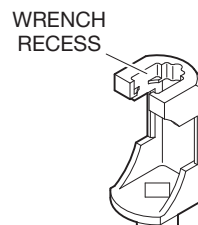

FIGURE 8
Step 2. Tighten the sprinkler into the sprinkler fitting using only the W-Type 10 Recessed Sprinkler Wrench, see Figure 8. With reference to Figure 1, 2, or 3, apply the W-Type 10 Recessed Sprinkler Wrench to the sprinkler wrenching flanges.